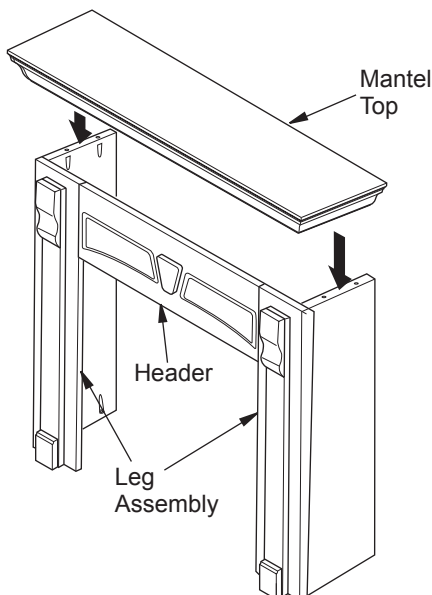

Figure 7 - Placing Mantel Top Onto Mantel Assembly
1. Place top onto mantel (see Figure 7). The rear of legs should be flush with back of mantel top and centered left to right (see Figure 7).